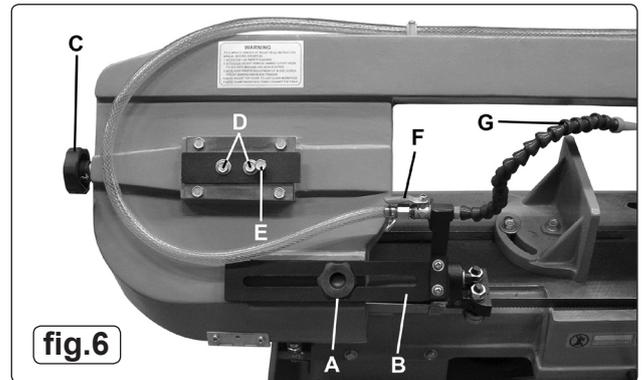

fig.6
- 4.6.3. The left hand blade guide can be seen in fig.6 item B. To adjust it, loosen knob A and slide the guide near to the workpiece. Tighten knob A.
- 4.7.5. If inspection indicates that adjustment is required loosen bolts 'D' (fig.6) using a 12mm spanner. Start up saw.
- 4.7.6. Place a 12mm spanner onto the adjuster (fig.6.E) and rotate it in or out as required whilst observing the position of the blade on the wheels. Turn the adjuster clockwise to track the blade closer to the wheel flanges. Turn the adjuster anti-clockwise to track the blade away from the wheel flanges. When satisfied with the tracking turn the saw off and close and secure the safety covers. Re-tighten bolts 'D'.